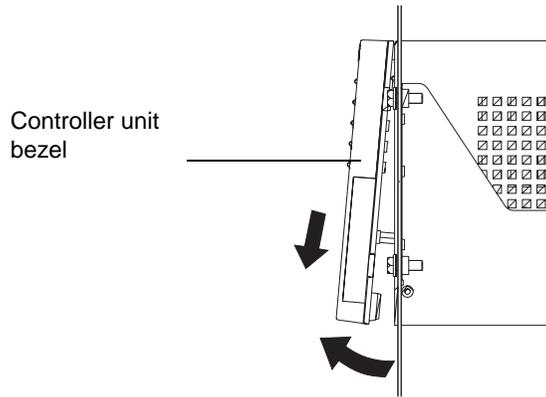

Figure 7. Removing the controller unit bezel
To gain access to the CRUs, cables, indicator lights, and switches inside the controller unit, you must remove the bezel. Figure 7 on page 13 shows how to remove the bezel.
- 1 Carefully pull out the bottom of the bezel to release the pins; then slide down the bezel, as shown in Figure 7 on page 13.